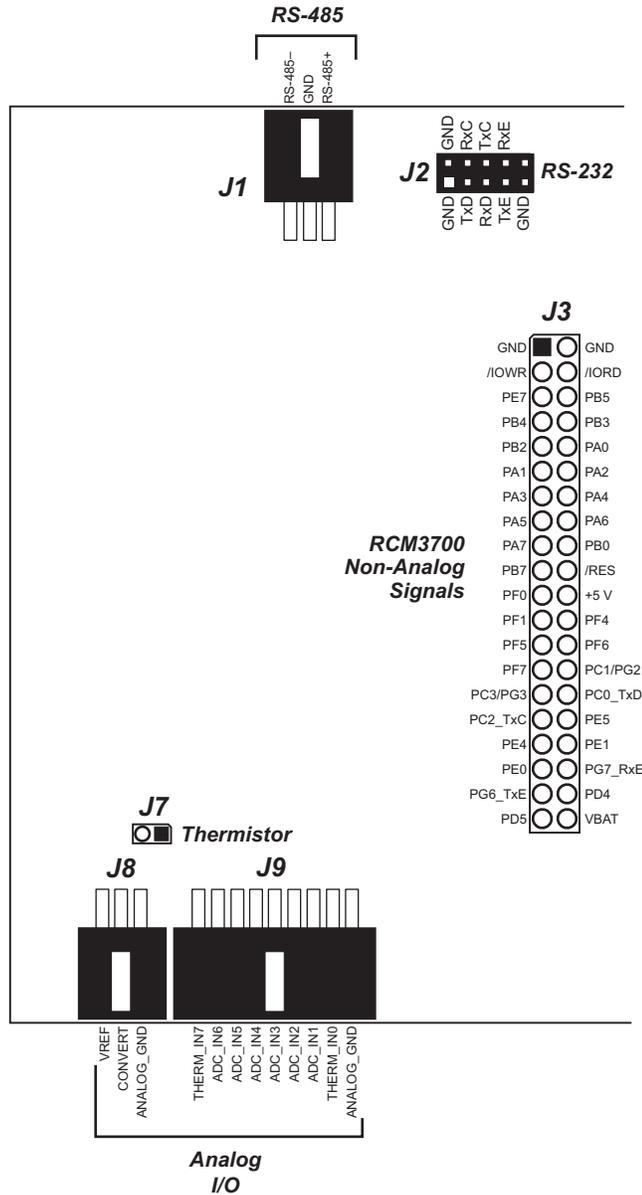

Figure B-4. RCM3700 Prototyping Board Pinout
- **Module Extension Headers**—The complete non-analog pin set of the RCM3700 module is duplicated at header J3. Developers can solder wires directly into the appropriate holes, or, for more flexible development, a 2 × 20 header strip with a 0.1" pitch can be soldered into place. See Figure B-4 for the header pinouts.
- **Analog I/O Shrouded Headers**—The complete analog pin set of the RCM3700 Prototyping Board is available on shrouded headers J8 and J9. See Figure B-4 for the header pinouts.
Figure B-4 shows the RCM3700 Prototyping Board pinouts.
Analog input THERM_IN7 on the Prototyping Board was designed specifically for use with a thermistor in conjunction with the `THERMISTOR.C` sample program, which demonstrates how to use analog input THERM_IN7 to calculate temperature for display to the Dynamic C **STDIO** window. The sample program is targeted specifically for the thermistor included with the Development Kit with $R_0 @ 25^\circ\text{C} = 3 \text{ k}\Omega$ and $\beta 25/85 = 3965$. Be sure to use the applicable R_0 and β values for your thermistor if you use another thermistor. Install the thermistor at location J7, which is shown in Figure B-4.